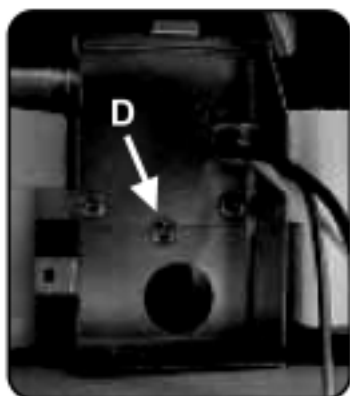

Figure 14/Ilus. 14
- 2) Remove the strain relief plate by removing the screw at the back of the junction box, as shown in Figure 14, letter D and sliding the strain relief plate out.